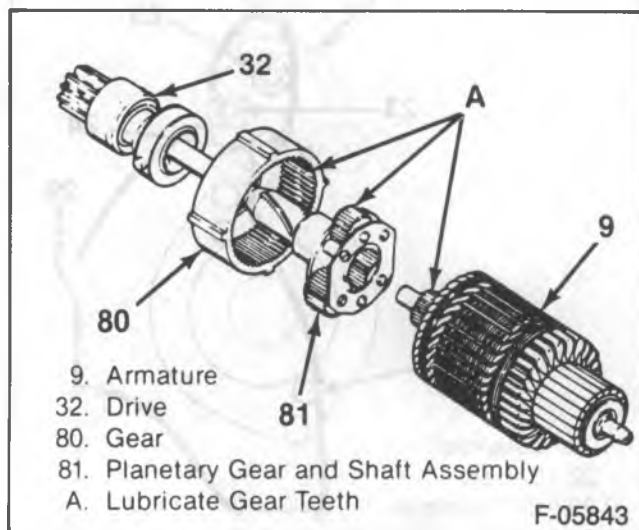
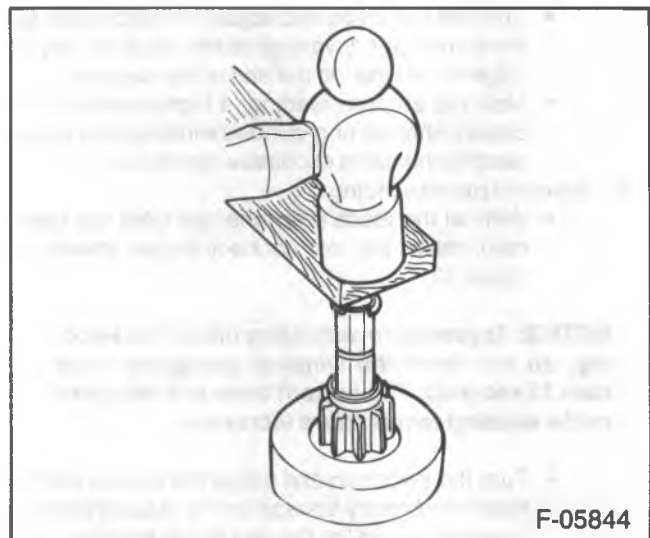
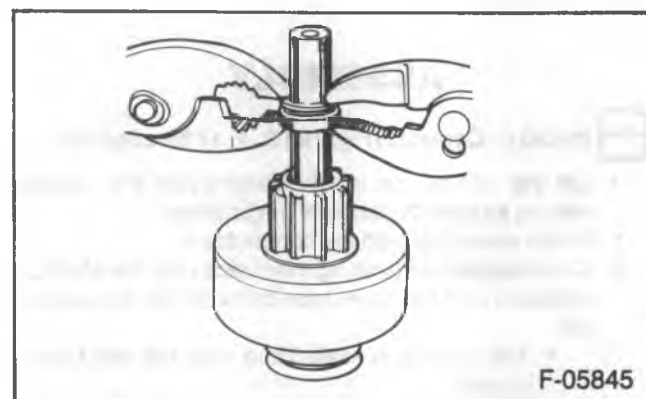

Figure 13—Armature, Gears and Drive
Figure 14—Forcing the Stop Ring on the Shaft
Figure 15—Forcing the Collars over the Stop Ring
5. Lubricant PN 10497186 or equivalent to the inner gear teeth, planetary gears, armature shaft gear teeth, and the shaft assembly bearing (figure 13).
7. Stop collar (39) onto the shaft.
8. Stop ring (37) on the shaft (figure 14).
9. Thrust collar (81) onto the shaft.
- Use pliers to squeeze the collars over the stop ring (figure 15).